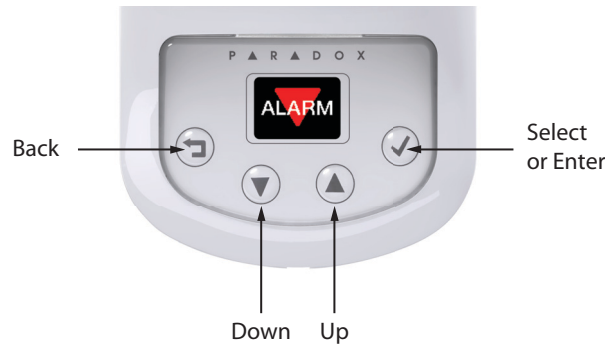

Figure 9: OLED Screen and Buttons
13. While the captive screw at the bottom of the unit is open, begin the power up process, and access the menus for configuration settings (see Figure 9). For more information about these settings, please see the NVX80 User Guide (document NVX80-EU00).
22. While the captive screw at the bottom of the unit is open, begin the power up process, and access the menus for configuration settings (see Figure 9). For more information about these settings, please see the NVX80 User Guide (document NVX80-EU00).
The NVX80 introduces a unique 4-button interface and 16-bit OLED display screen. The NVX80 is completely menu-driven, making programming and configuration simple. See *Figure 9* below.